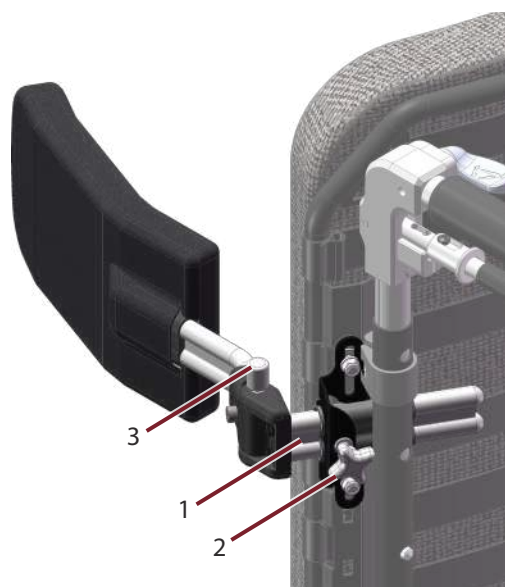

Figure 32. Thoracic support with mount
The thoracic support is mounted by inserting the profile (1 in Figure 32) in the thoracic support mount (2) on the backrest. It is secured at the desired position with a knob (3). **Note:** Do not tighten too hard, the knob and mount can be damaged.